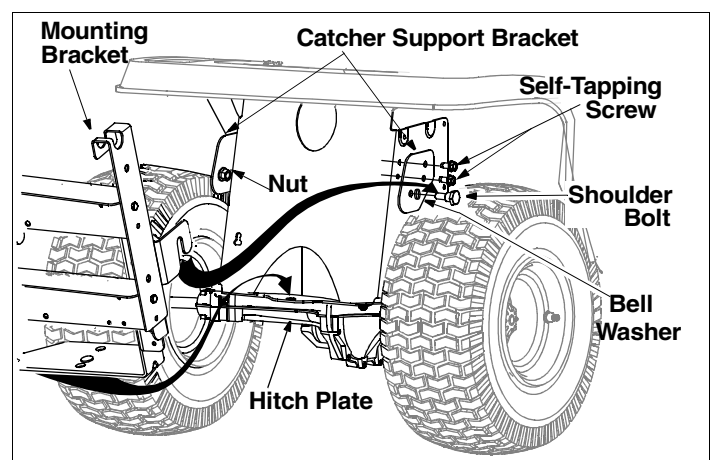

Figure 10
- Place one Catcher Support Bracket (Ref. No. 8) on each side of the tractor frame aligning the two smaller holes on the bracket with the corresponding holes on the tractor frame as shown in Figure 10.
- Secure the Catcher Support Brackets to the tractor frame with two Self-Tapping Screws (Ref. No. 7). See Figure 10.
- From the outside of the Catcher Support Bracket insert the Shoulder Screw/Bell Washer subassembly through the hole on the Catcher Support Bracket. Secure with a Flange Lock Nut (Ref. No. 4). See Figure 10. Repeat on other side.